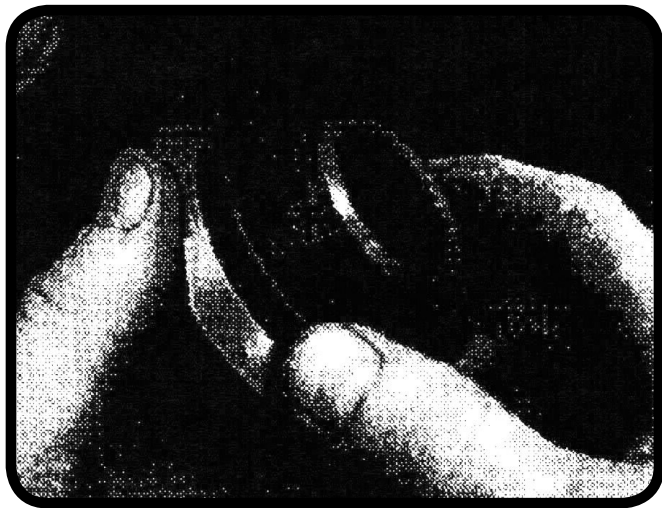

Figure 6
4. Press a thrust washer (with grease added) onto the back of each coupler (**Figure 6**).